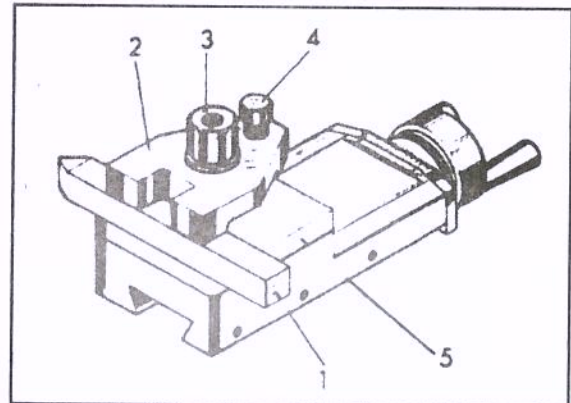

Fig.1
Tool post is mounted on the top slide. The tool(1) can be positioned where desired and then locked in place with 3 point clamp with forked end(2) holding tool. Tighten clamp nut(3) and level(3) point clamp with set screw(4). (Fig.1)